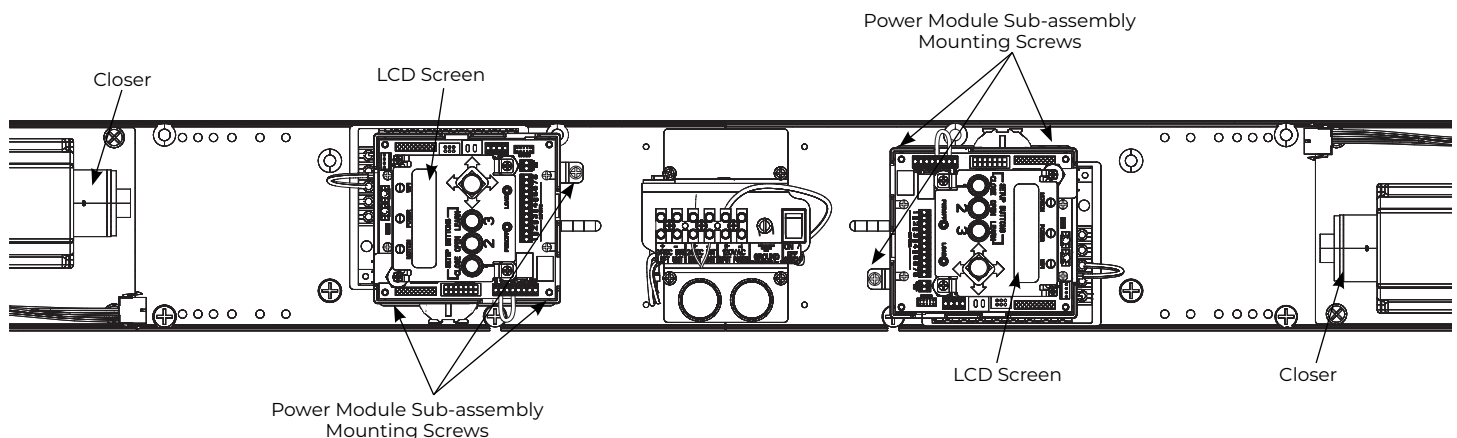

Figure 15 Wiring Removed From View
1. Using three (3) #8-32 x 5/16" Phillips screws per assembly, secure power module sub-assemblies to backplate at location marked on backplates. (Figure 15)
NOTE: Orient assemblies so LCD screens on inverters are toward corresponding closer assemblies. (Figure 15)